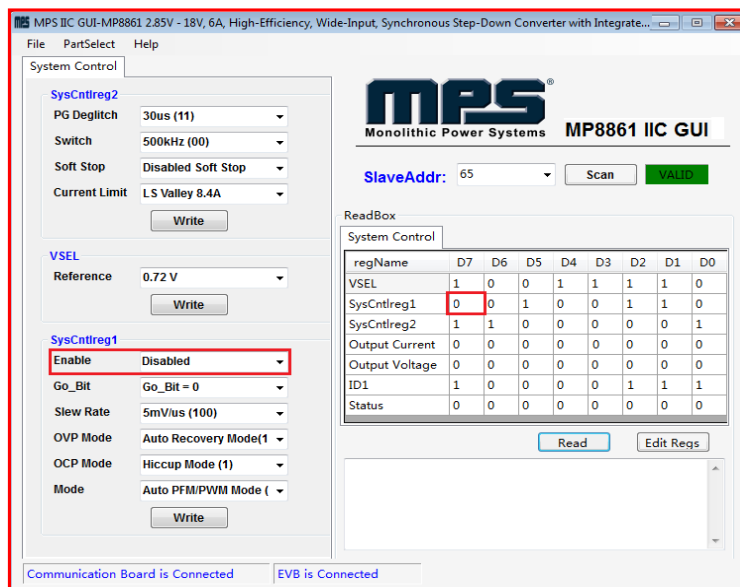

Figure 10: Refer to Datasheet to Translate 0's and 1's
- Click the **“Read”** button to update values. The changed information of the item will appear on the right side (see Figure 10).